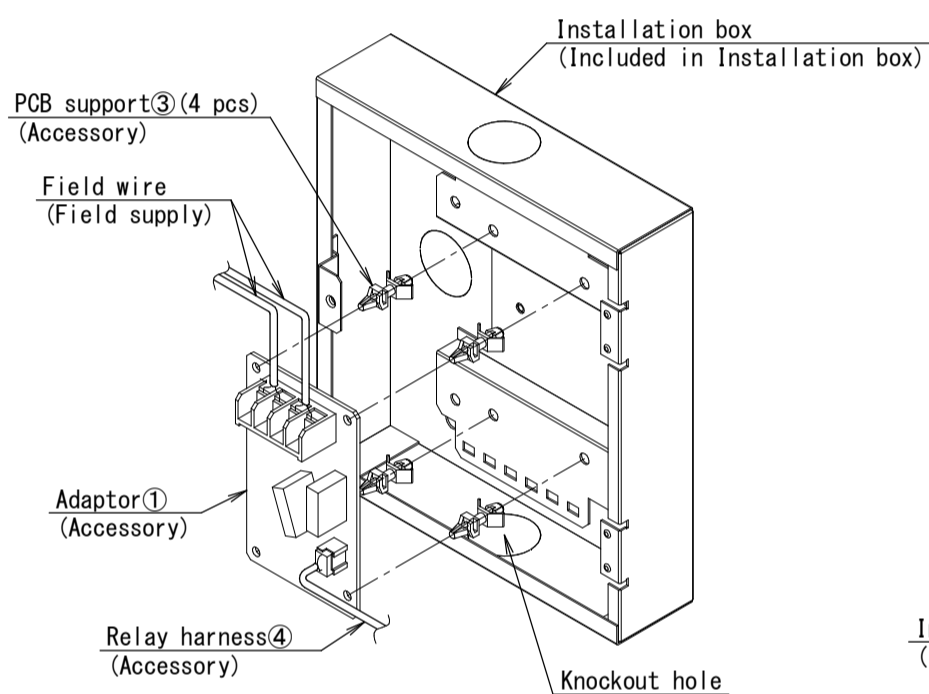

Figure 1
(2) Mount the Adaptor① on the Installation box with the PCB supports③ attached to this Adaptor. (Figure 1)